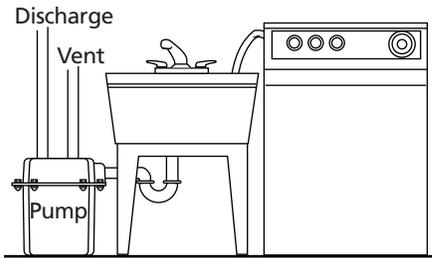

**Figure 8 – Typical installation to remove air conditioner condensate or dehumidifier water**
1. Install inlet pipe in opening as shown. Use RTV sealants or Plasto-Joint Stik\* to seal threads. See Figures 8, 9, and 10, page 4 and 5, for typical installation arrangements.